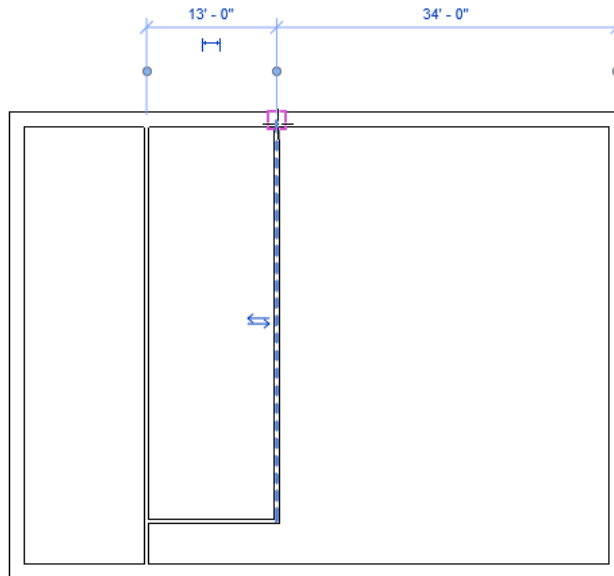

Figure 3-84 The wall created extended upto the upper exterior wall
5. Select the end point of the first wall created, move the cursor vertically upward and click on the upper exterior wall; the wall gets extended upto the upper exterior wall, as shown in Figure 3-84.